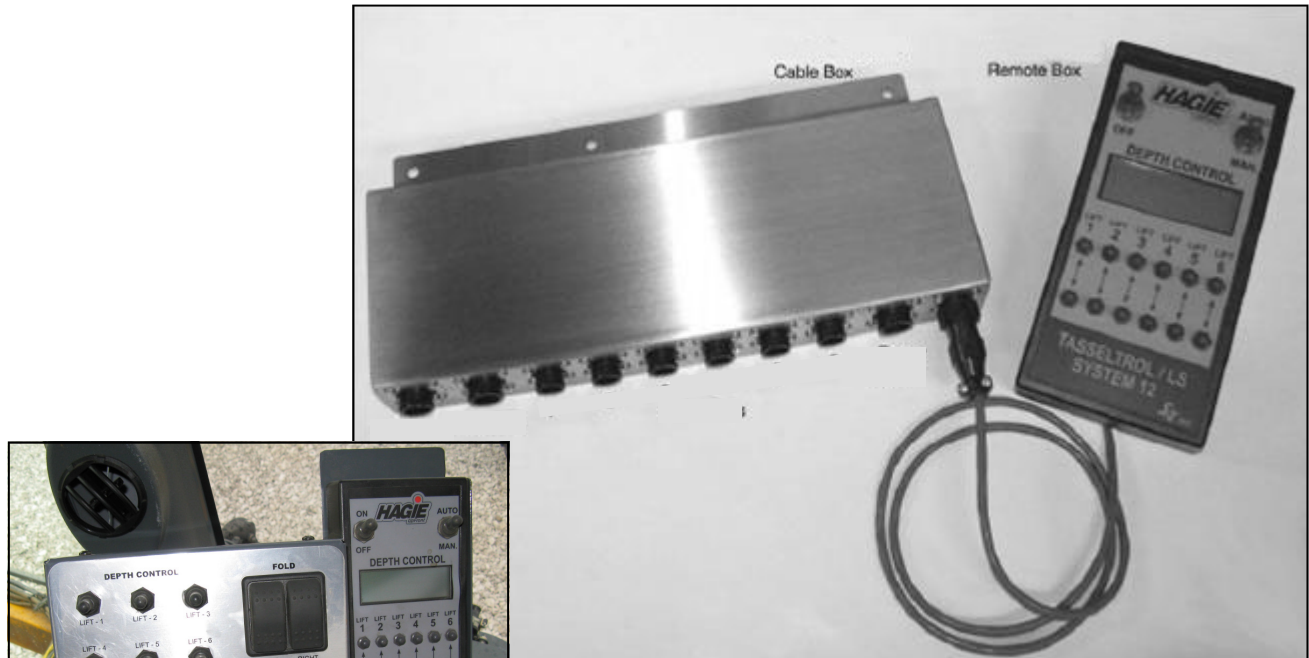
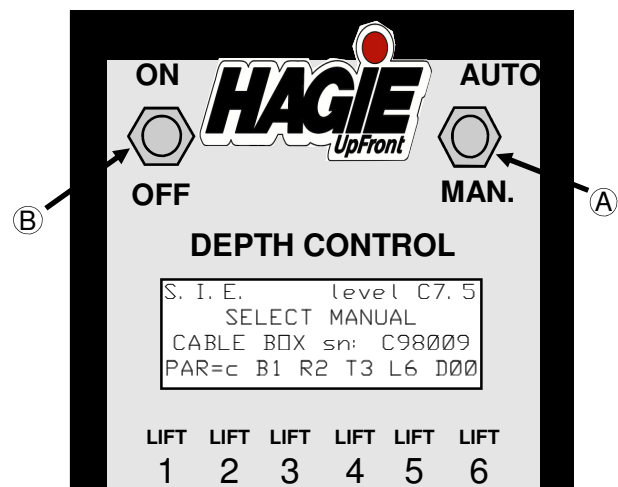

FIG. 91-1
FIG 91-2
Select **AUTO** by placing the **AUTO/ MAN.** switch (fig. 91-2, item 1) in the **AUTO** position. Now turn on the **DEPTH CONTROL** (fig. 91-1) by placing the **ON/OFF** switch (fig. 91-2, item 2) in the **ON** position.